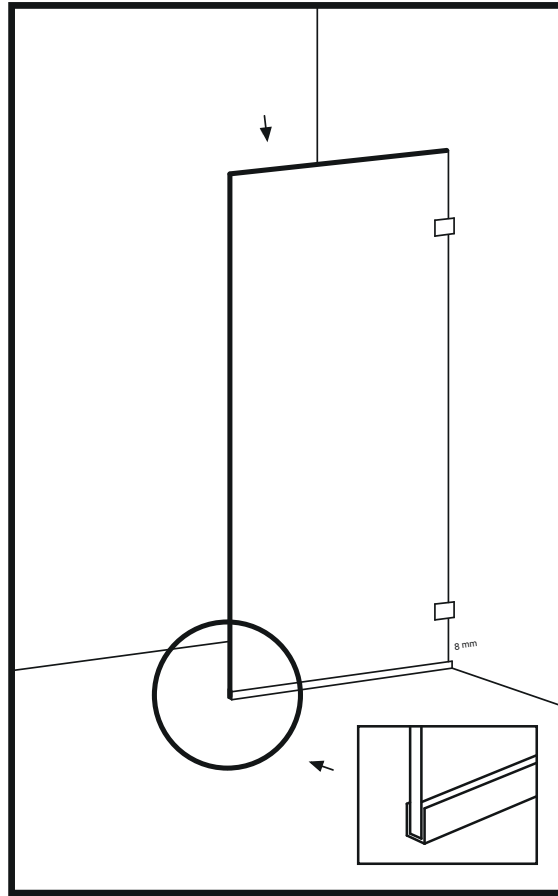

Figure 6
11. Before installing the shower glass, make sure to leave an 8 mm gap between the wall and the glass and ensure that the glass and clamp attachment points overlap. (Figure 6)